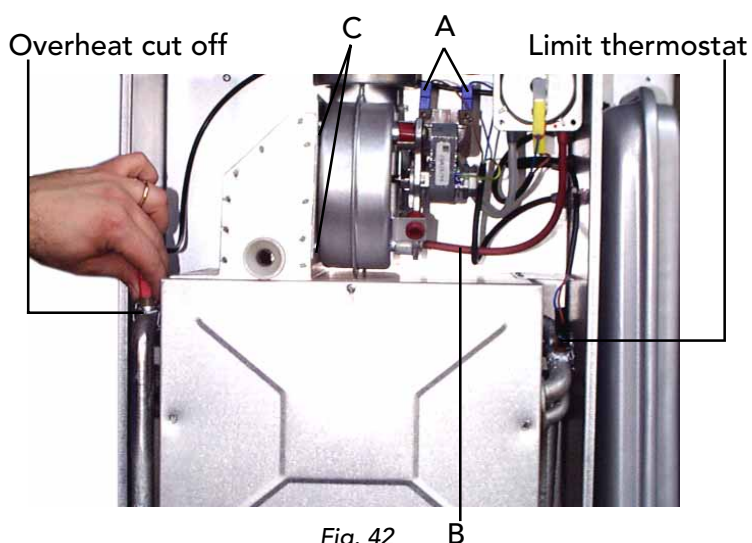

Fig. 42
7.10 Removal of fan (fig. 42)
7.11 Limit thermostat, or overhear cut off thermostat (fig. 42)
- Identify the location of thermostat from fig. 42